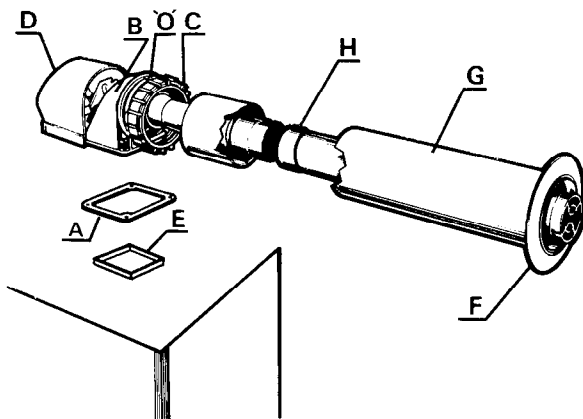

Fig. 25
- b) Push spade terminals onto tags COM (P) No (1) and No (2)
- c) Fit turret cover (D) (fig.25) ensuring that both the air tube and cables are not trapped. Ensure that the cable retaining clip is positioned inside of the cover as shown, (see fig. 26).